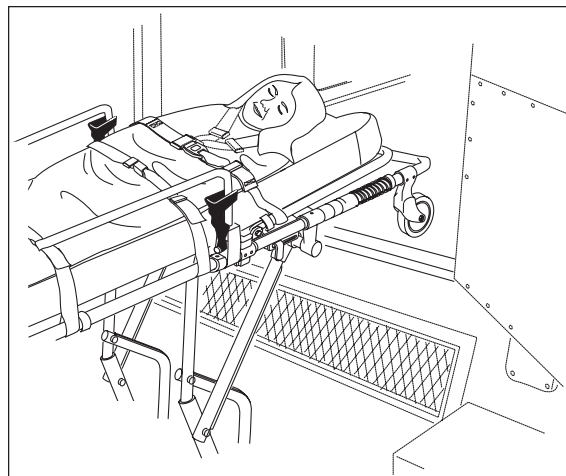

Figure 20 - Loading Wheels on Patient Compartment Floor
1. *Both Operators:* Roll cot forward until both loading wheels are on patient compartment floor (Figure 20).